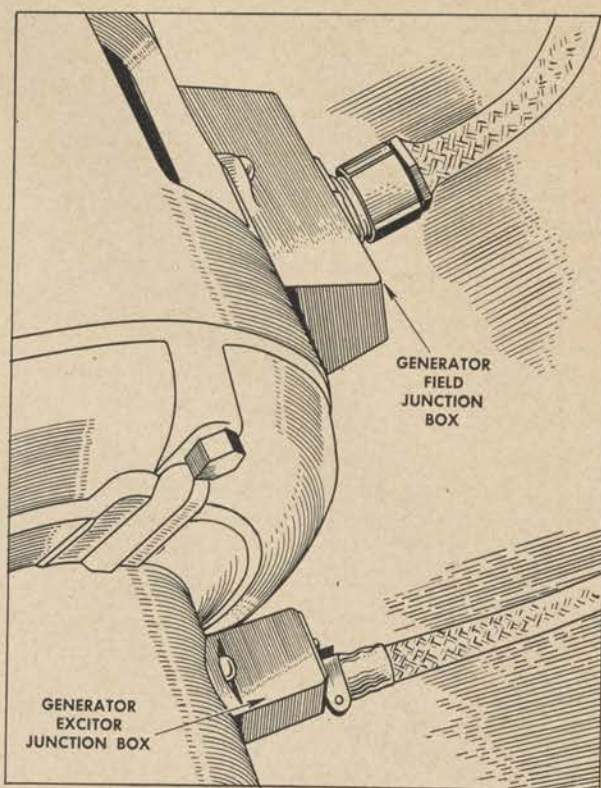

Figure 46. Auxiliary generator connection.
(3) *Auxiliary generator control panel to auxiliary generator.* Connect the two auxiliary generator cables from the auxiliary control panel to the terminals on the auxiliary generator. (See fig. 46.)